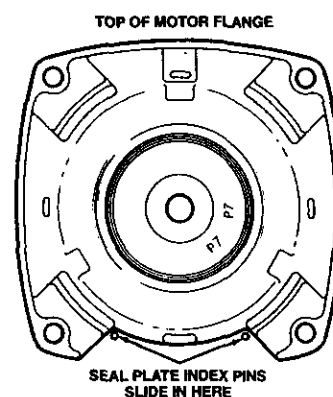

Figure 8A
- F. Reassemble seal plate to motor flange. BE SURE it is right side up: index pins should be down; seal plate is marked at top. See Figures 8A and 8B.